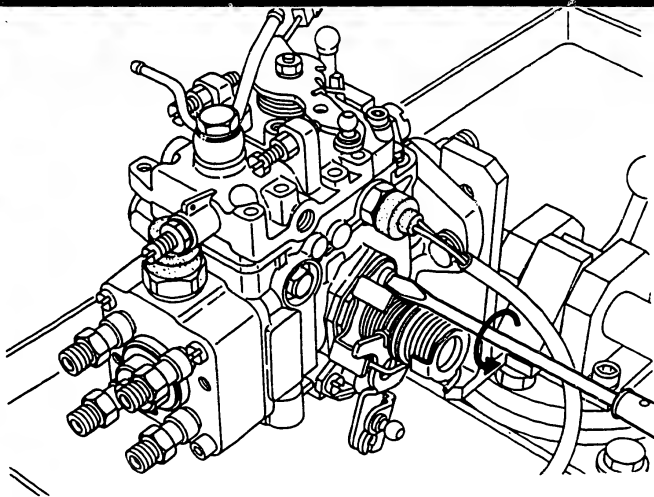

Fig. 178 Removing the M-C.S.D.
5. Remove the two screws (282) to remove the M-C.S.D. from the injection pump. (Fig. 178)